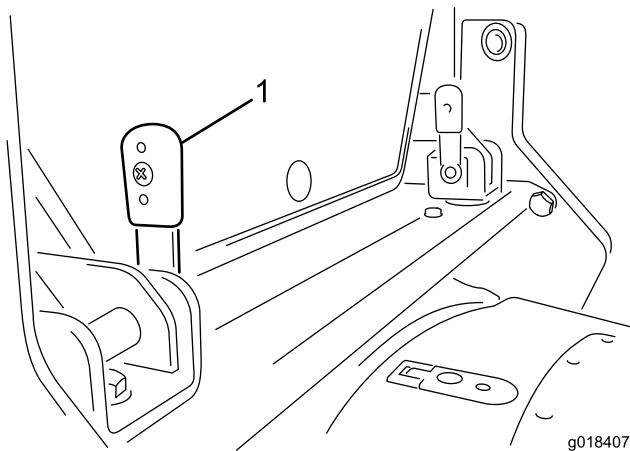

Figure 12
1. Rotate the two locking levers, located on the cross beam at the rear of the cab, so that they point upward (Figure 12).
3. With the levers in the vertical position (Figure 12), push them through the sets of brackets. It might be necessary to wiggle the levers into the brackets to align the locking pegs in the slots.